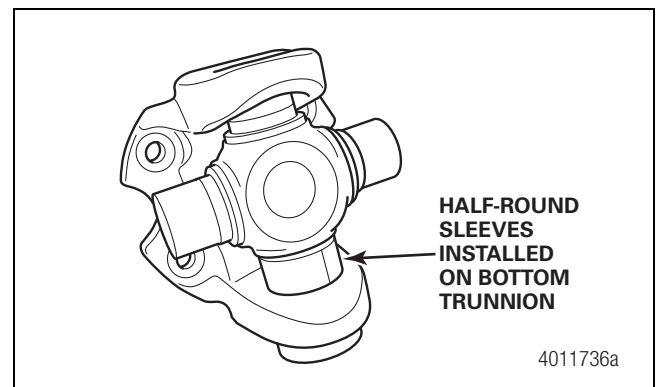

Figure 4.59
- Rotate the drive flange 180 degrees (to the other end). Install the half-round sleeves on the bottom universal joint radius. Figure 4.59.